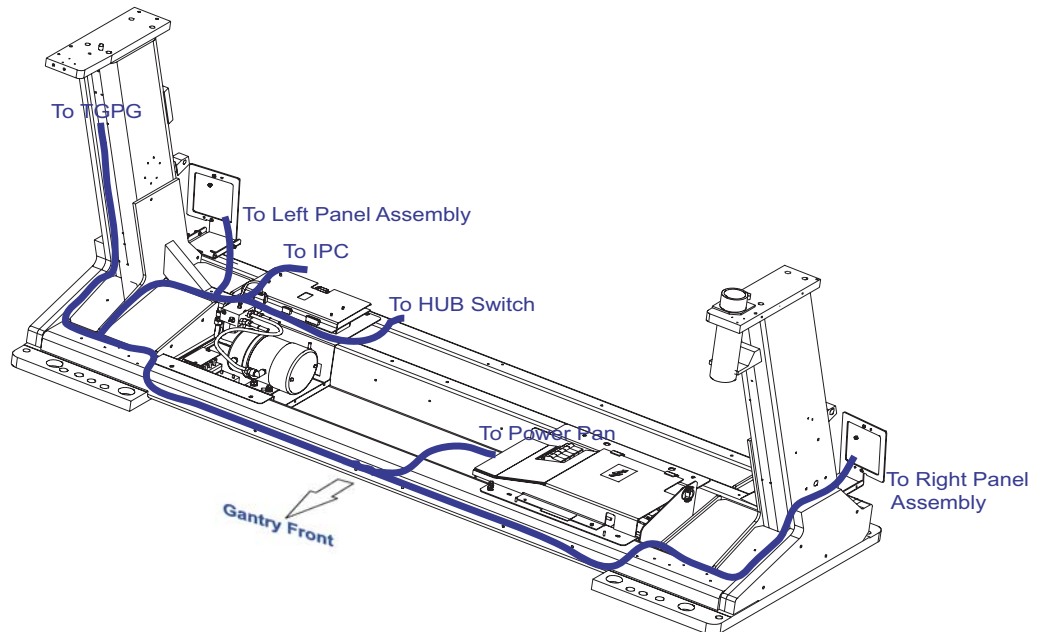

Figure 2-9 Cable Wiring
- 1.) Carefully route the IPC harness assembly as shown in illustration Figure 2-9.